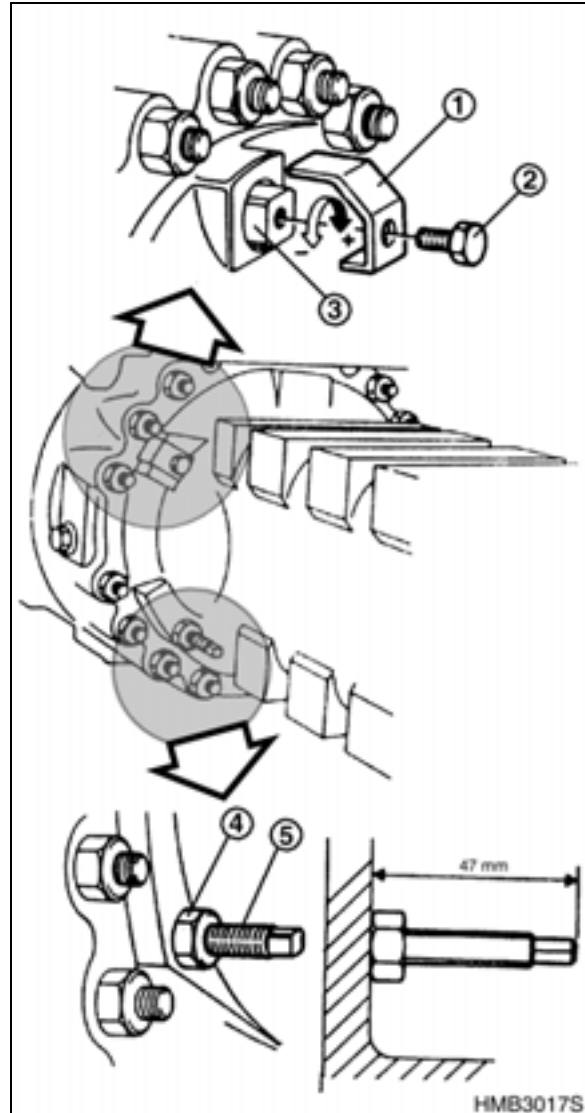

Figure 92
2. Remove lock bolt (2, Figure 92) and bracket (1).
3. Rotate the square pinion adjusting bolt (3, Figure 92) in counter clockwise direction until it stops. At this time the clearance of brake disk is "0".
4. Rotate adjusting bolt (3, Figure 92) clockwise four turns (0.25 mm / rotation) to set the clearance to 1 mm (0.4 in).
5. Install lock bracket (1, Figure 92) and bolt (2).
2. Loosen lock nut (4, Figure 92) from adjusting bolt (5).
3. Tighten adjusting bolt (5, Figure 92) until it stops. This will manually release the parking brake so that the drive shaft will be free to turn.
1. Attach gauge to port (5, Figure 92).